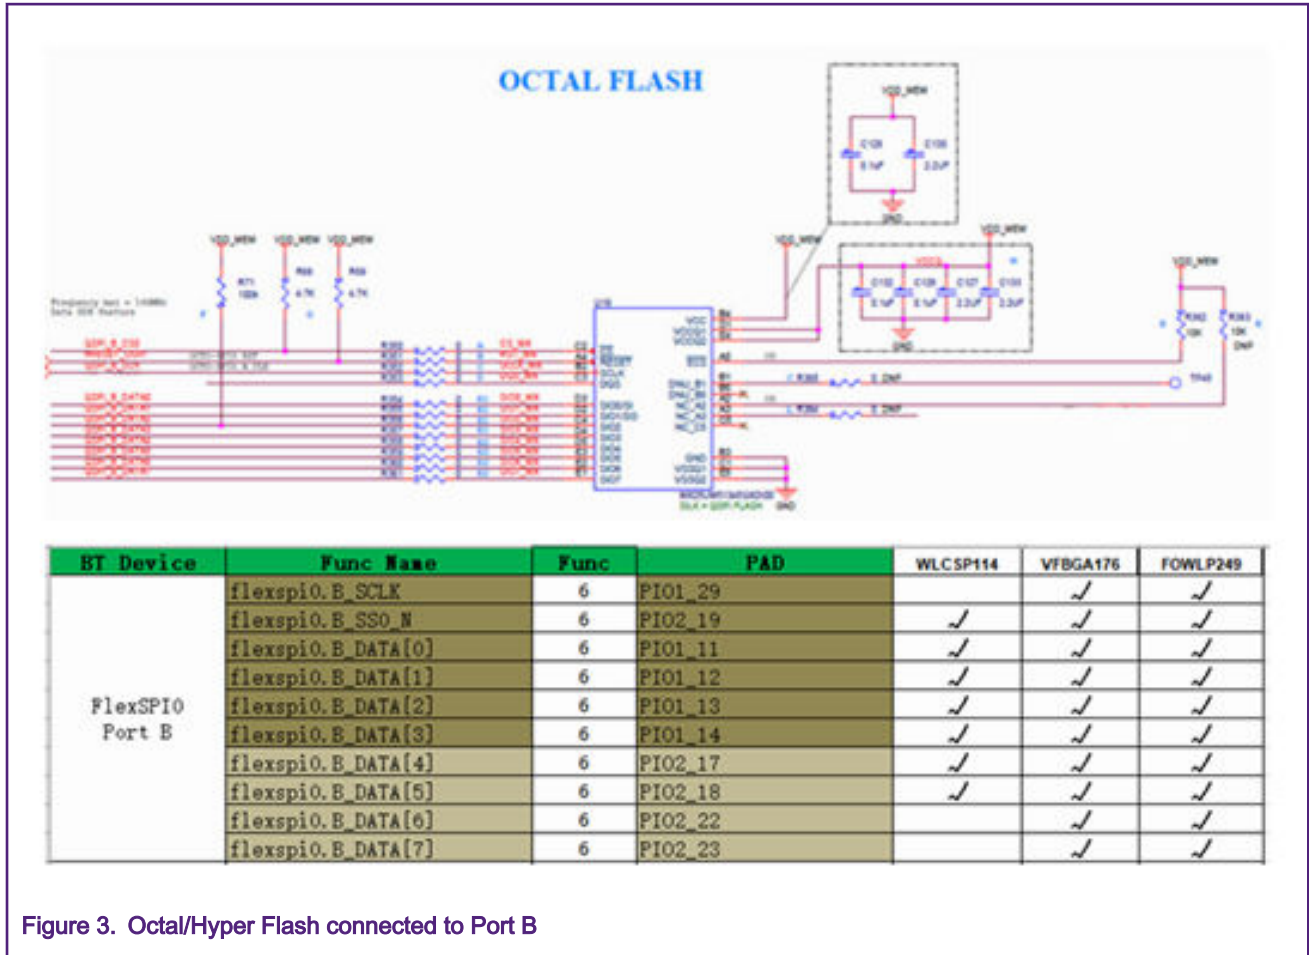

Figure 3. Octal/Hyper Flash connected to Port B
- The last way is to connect Octal/Hyper flash to FlexSPI Port B, as shown in Figure 3.